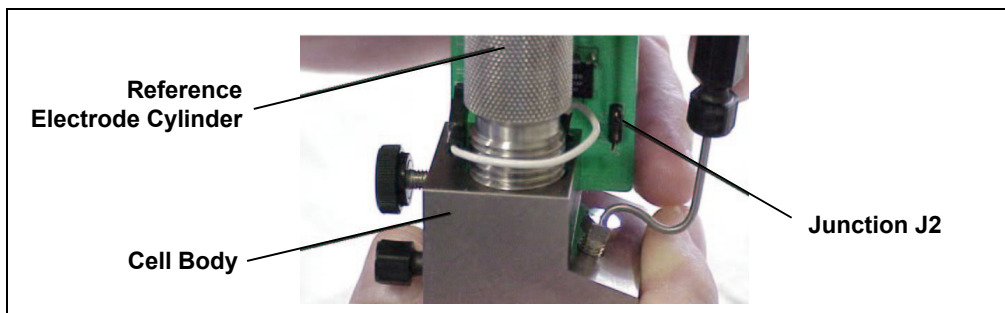

Figure 5-2. Removing the Reference Electrode
3. Disconnect the reference electrode's J2 connector from junction J2 on the electronics card (see Figure 5-2).
4. Unscrew the reference electrode cylinder from the cell body (see Figure 5-2).